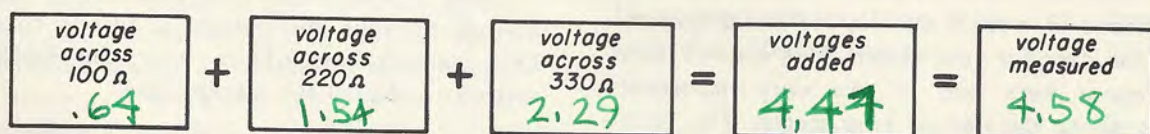

Fig. 7-16
Step 3. Measure the voltage across the 100-ohm resistor. Record this reading in the first box of Fig. 7-16.
Step 4. Measure the voltage across the 220-ohm resistor and record it in the second box of Fig. 7-16.